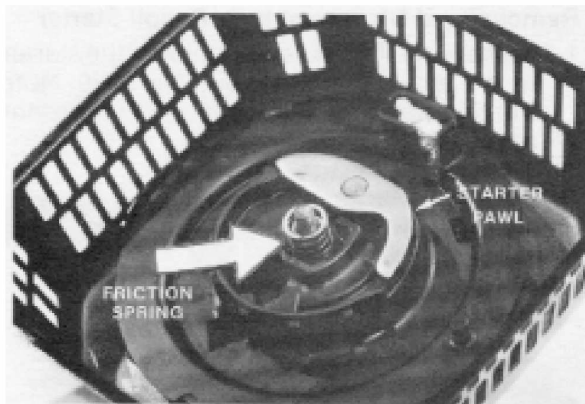

Figure 3-32
3. Unscrew the two mounting screws as shown in Fig. 3-32.
4. The friction spring is directly underneath the starter pawl guide. The starter pawl is also visible. See Fig. 3-32. Remove the friction spring.
3. Install the friction spring and pawl guide. See Figs. 3-32, 3-31.